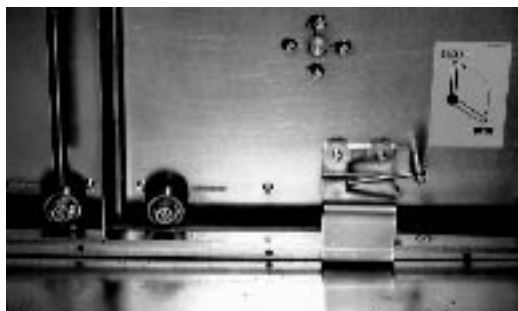

Figure 290. Backup Roll Pressure Handle
- b. If you see a paper jam, rotate the backup roll pressure handle clockwise, as shown in Figure 290 on page 315, to loosen the pressure against the paper roll.